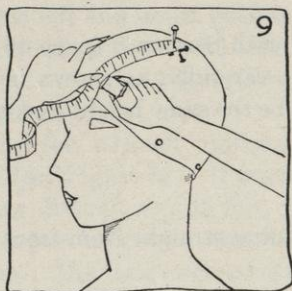

FIG. 9.
- (4) In order to get the desired headsize line, measure down from the center of the crown that you are using to the direct front, using the measurements you wrote down in Section 4 f (2) (a) (page 45), and put a horizontal chalk mark there (see Figure 9).